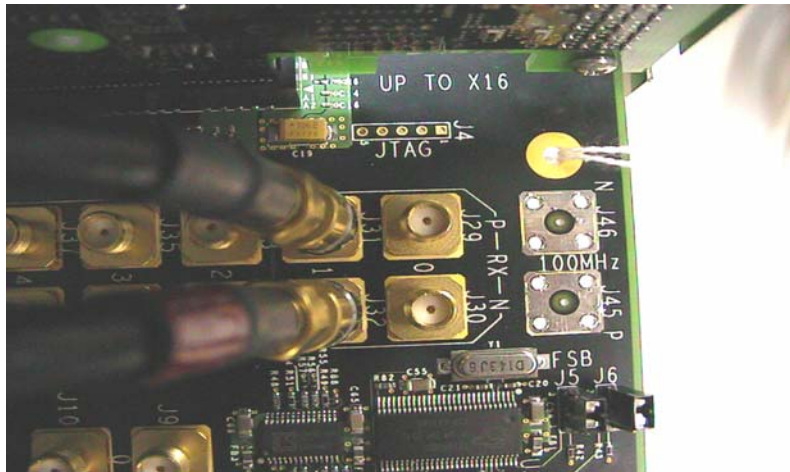

Figure 32 Compliance Base Board (CBB) SMA Probing Option
- a Digital Storage Oscilloscope channel 1 to the TX LANE P under test (where Lane 1 is under test in this example shown in Figure 32 above).
- b Digital Storage Oscilloscope channel 3 to the TX LANE N under test (where Lane 1 is under test in this example shown in Figure 32 above).